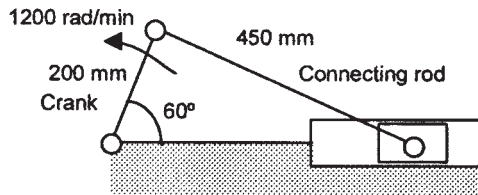

Figure 27.29 Problem 29
- 29 For the slider-crank mechanism shown in Figure 27.29, determine the angular velocity of the connecting rod.